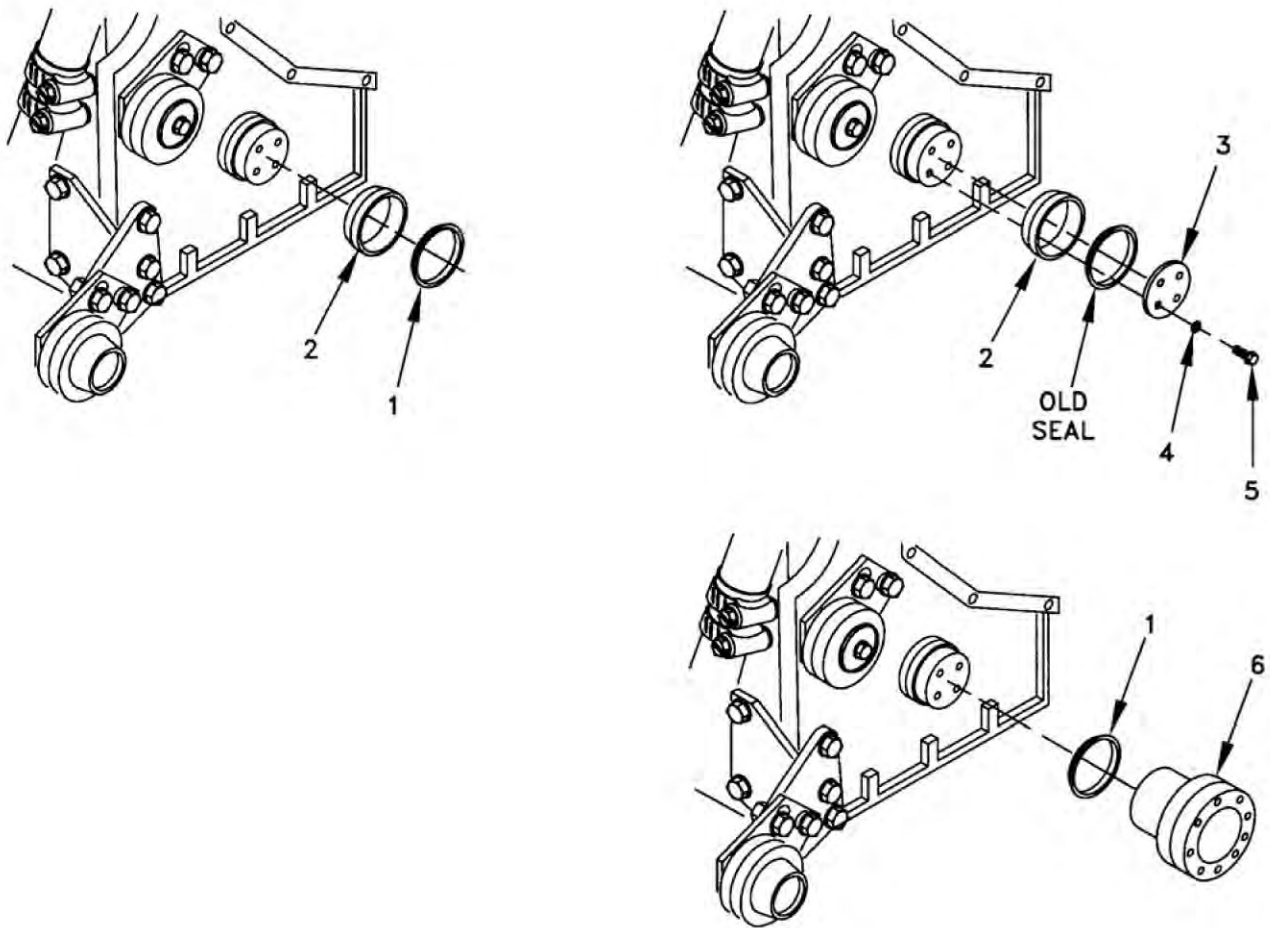

Figure 1. Crankshaft Front Seal.
1. Position crankshaft front seal (Figure 1, Item 2) over crankshaft.
3. Install retaining plate (Figure 1, Item 3), four washers (Figure 1, Item 4), and screws (Figure 1, Item 5).
4. Measure distance from surface of crankshaft front seal (Figure 1, Item 2) to surface of front housing. Tighten four screws (Figure 1, Item 5) until seal is properly seated.
5. Remove four screws (Figure 1, Item 5), washers (Figure 1, Item 4), and retaining plate (Figure 1, Item 3).
6. Remove shipping sleeve from crankshaft front seal (Figure 1, Item 2).
7. Apply light coat of liquid cleaner to inside diameter of excluder (Figure 1, Item 1).
8. Install excluder (Figure 1, Item 1) on crankshaft pulley (Figure 1, Item 6) approximately 1/4 in (0.6 cm).